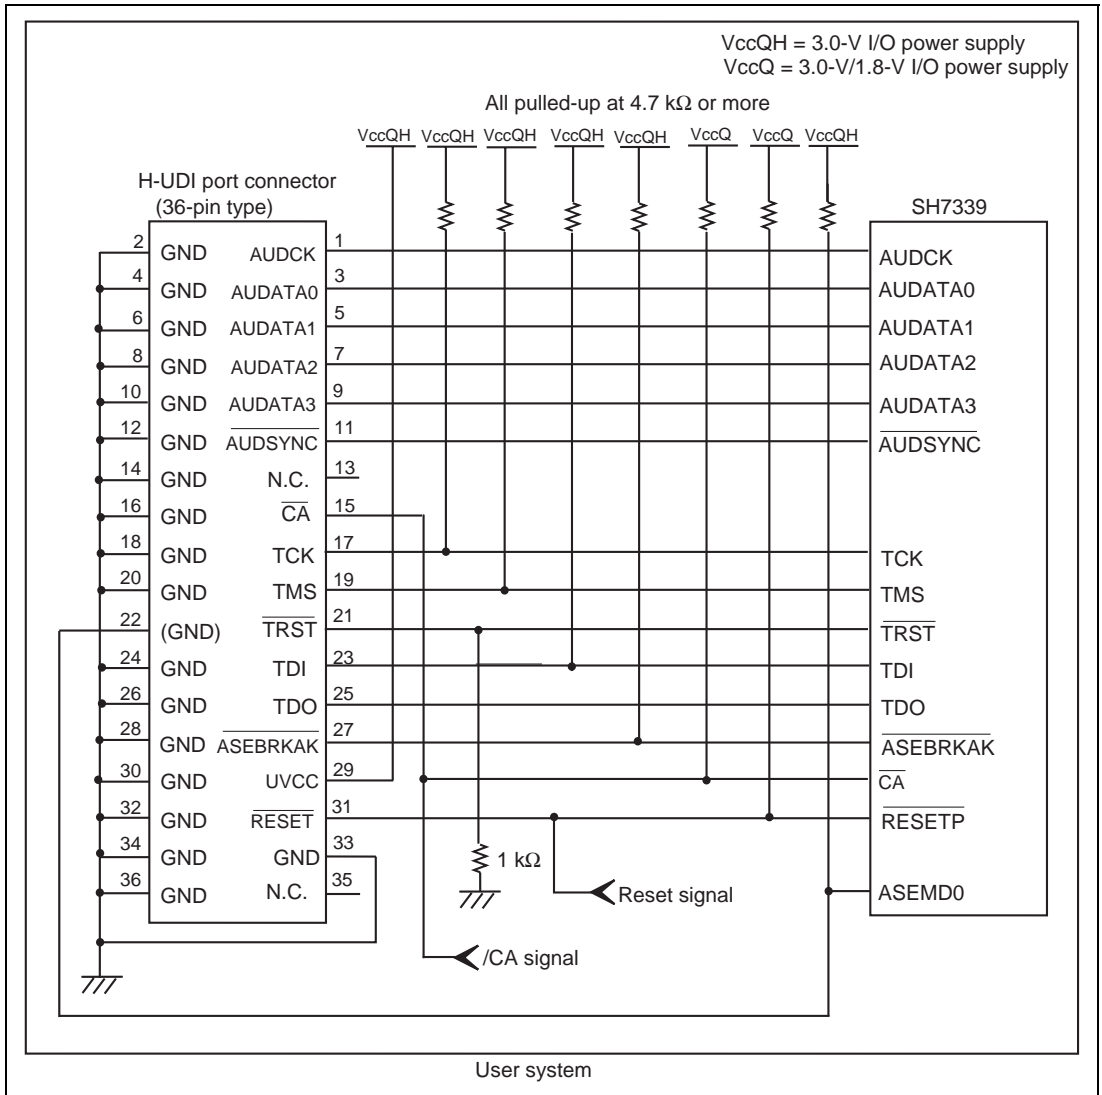

Figure 1.3 Recommended Circuit for Connection between the H-UDI Port Connector and MPU when the Emulator is in Use (36-Pin Type UVCC Connected)
Figure 1.3 shows a recommended circuit for connection between the H-UDI and AUD port connectors (36 pins) and the MPU when the emulator is in use.
- (1) When the emulator is used: /ASEMD0 = 0
- (2) When the emulator is not used: /ASEMD0 = 1Figure 1.3 shows an example of a circuit that allow the /ASEMD0 pin to be GND (0) whenever the emulator is connected by using the user system interface cable. When the /ASEMD0 pin is changed by switches, etc., ground pin 22. Do not connect this pin to the /ASEMD0 pin.
8. Since the H-UDI and the AUD of the MPU operate with the VccQH, supply only the VccQH to the UVCC pin. Make the emulator's switch settings so that the VccQH will be supplied (SW2 = 1 and SW3 = 1) (as shown in figure 1.3).
When the circuit is connected as shown in figure 1.3, the switches of the emulator are set as SW2 = 1 and SW3 = 1. For details, refer to section 3.8, Setting the DIP Switches, in the Debugger Part of the SuperH™ Family E10A-USB Emulator User's Manual.